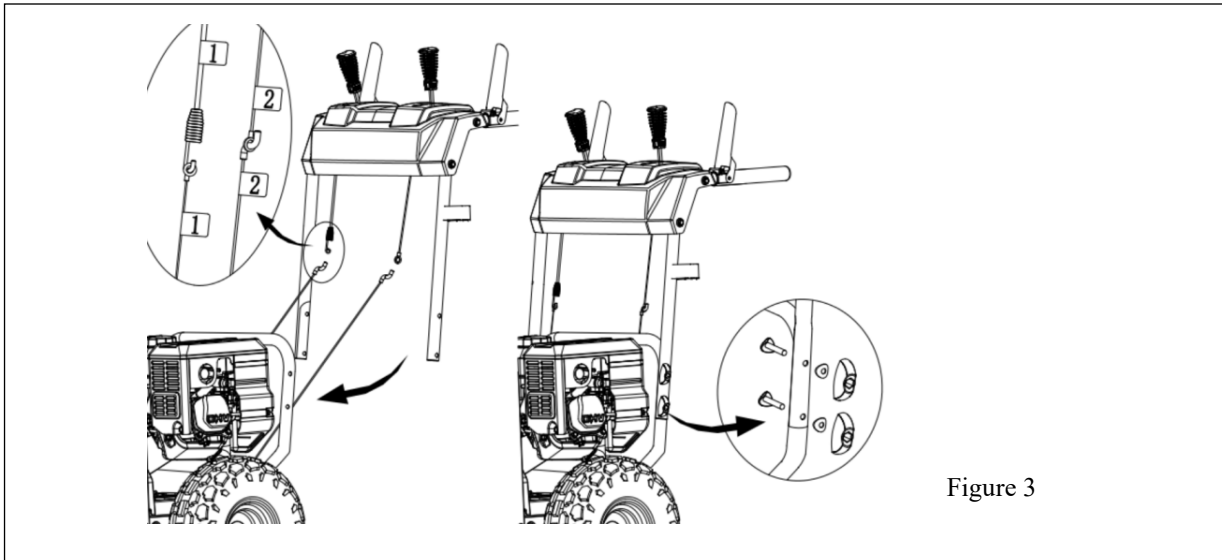

Figure 3
3. When attaching Assembly Hardware, make sure ALL cables are underneath the Frame (Upper & Lower) Handles after installation as indicated in Figure 3. VERY IMPORTANT!!!**
5. Verify that the connection for the Upper & Lower Drive/Auger Cables is accurate. (See Figure 3)